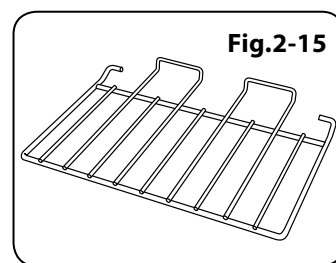

Fig.2-15
- Two energy saving shelves (**Fig.2-15**)